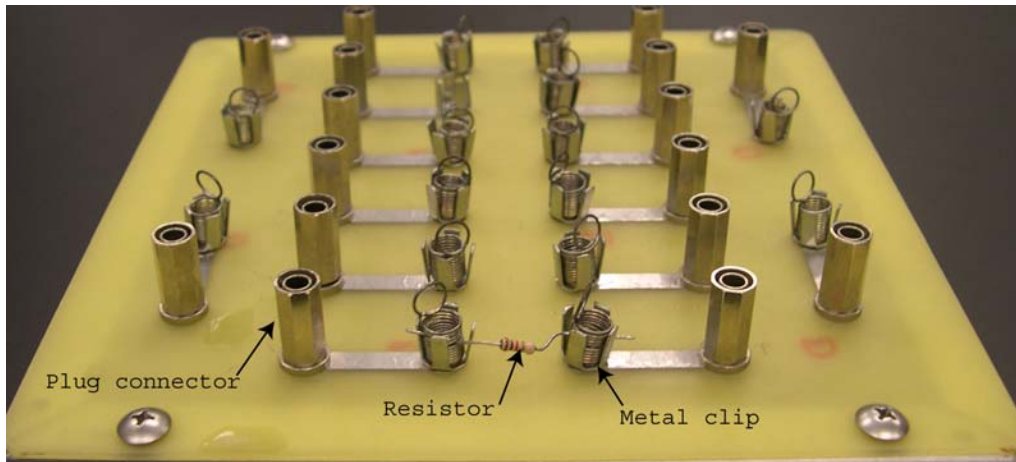

Figure 3.6: Breadboard
- breadboard (Fig. 3.6)
The breadboard is designed for quick construction of simple electronic circuits and is shown in Figure 3.6. Electronic elements (e.g. resistors) are